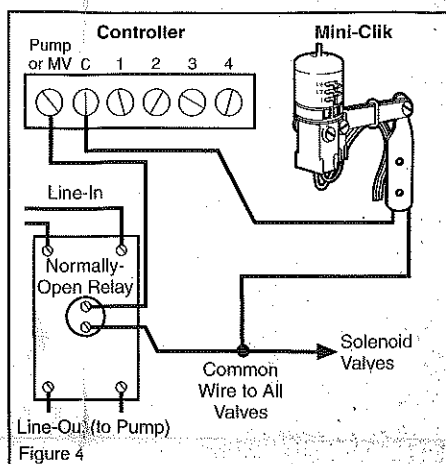

Figure 4
B. 24 Volt Solenoid Valves with Booster Pump (See Figure 4)